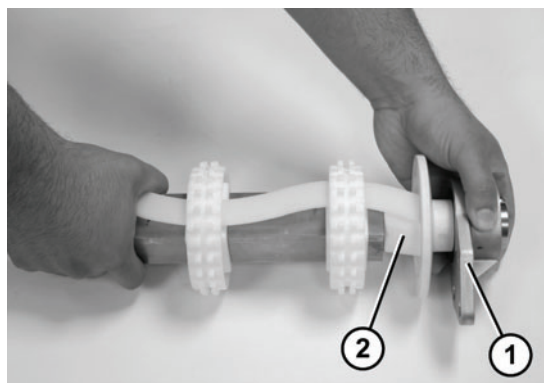

Figure 60
9. Slide the 3 hole flange with bearing (**Figure 60, item 1**) and flanged puck (**Figure 60, item 2**) off the drive spindle.